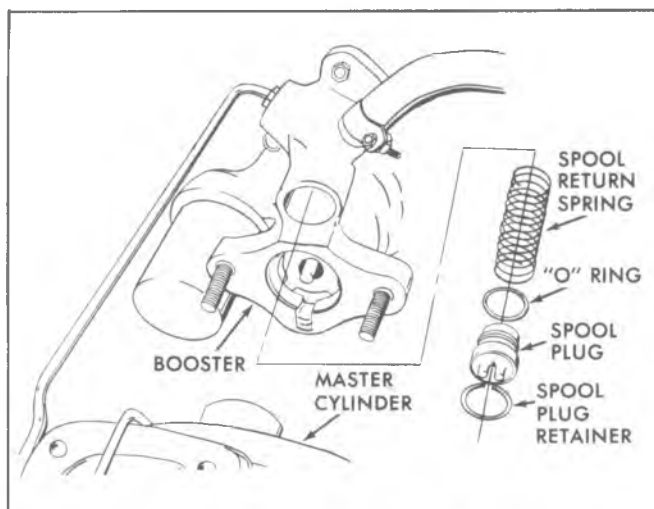

Fig. 5-53—Spool Valve Plug Removal
3. Push spool valve plug in and use a small screwdriver to remove retaining ring (fig. 5-53).
1. Install "O" ring and spool valve plug (fig. 5-53).